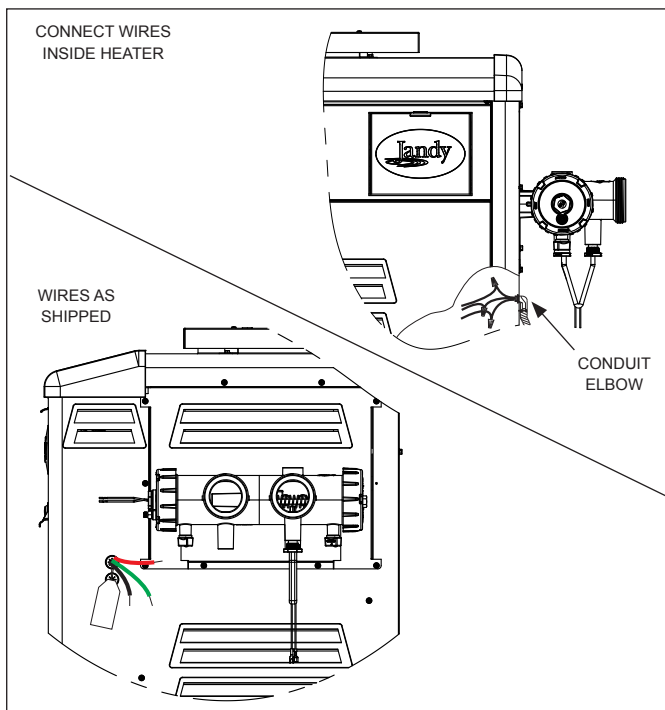

Figure 15. Field Wiring Connections
2. Connect the wires from the power source to the leads on the right side of the heater in the space behind the raceway. See Figure 15.